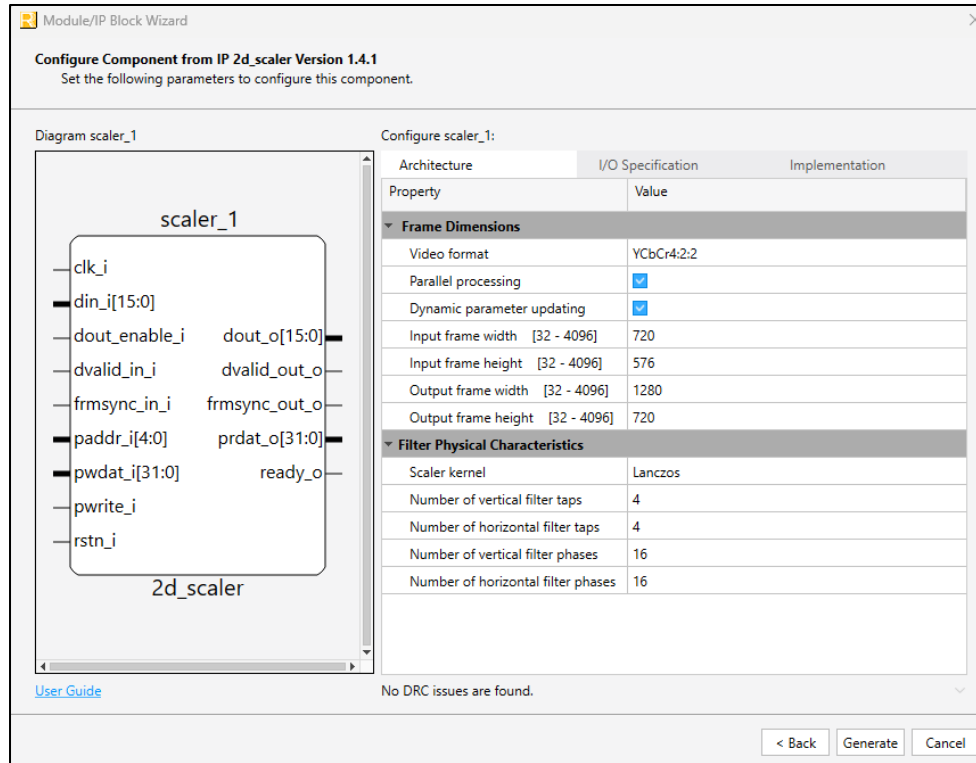
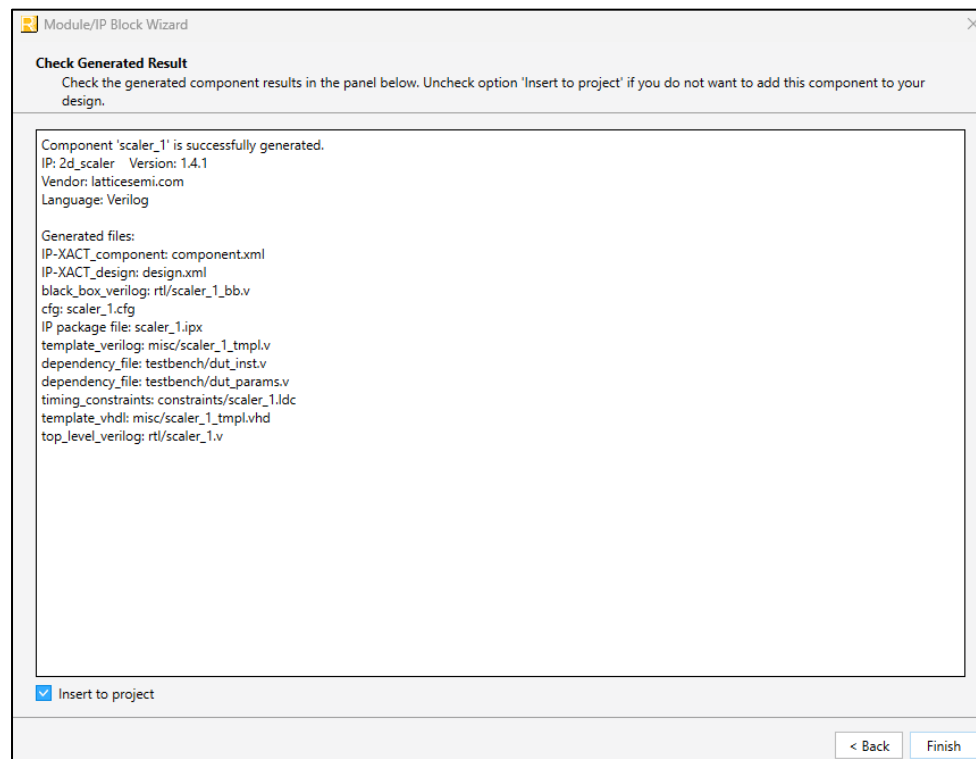

Figure 3.2. Configure User Interface of 2D Scaler IP Core
Figure 3.3. Check Generating Result
3. In the module's dialog box of the **Module/IP Block Wizard** window, customize the selected 2D Scaler IP Core using drop-down menus and check boxes. As a sample configuration, see Figure 3.2. For configuration options, see the Attribute Summary section.
- Click **Generate**. The **Check Generating Result** dialog box opens, showing design block messages and results as shown in Figure 3.3.
IP Generation and Evaluation	<ul style="list-style-type: none"> <li>Updated <a href="#">Licensing the IP</a> section, The 2D Scaler IP is provided at no additional cost with the Lattice Radiant software.</li> <li>Updated the following figures: <ul style="list-style-type: none"> <li><a href="#">Figure 3.1. Module/IP Block Wizard</a></li> <li><a href="#">Figure 3.2. Configure User Interface of 2D Scaler IP Core</a></li> <li><a href="#">Figure 3.3. Check Generating Result</a></li> </ul> </li> </ul>